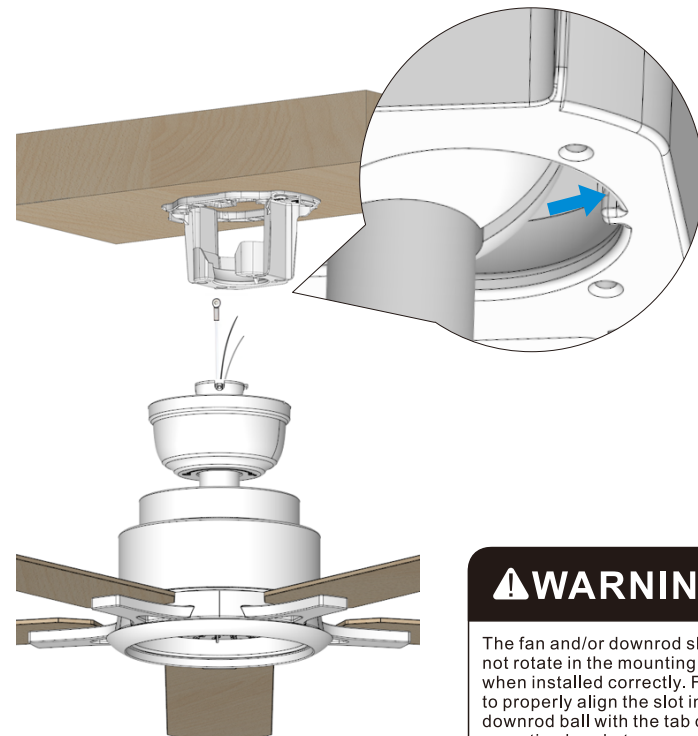

Fig. 7.1
7.1 Install the ball end of the downrod into the opening of the mounting bracket. Rotate the downrod until the tab on the mounting bracket is securely seated in the slot in the downrod ball, as shown in the enlarged image in Fig. 7.1.